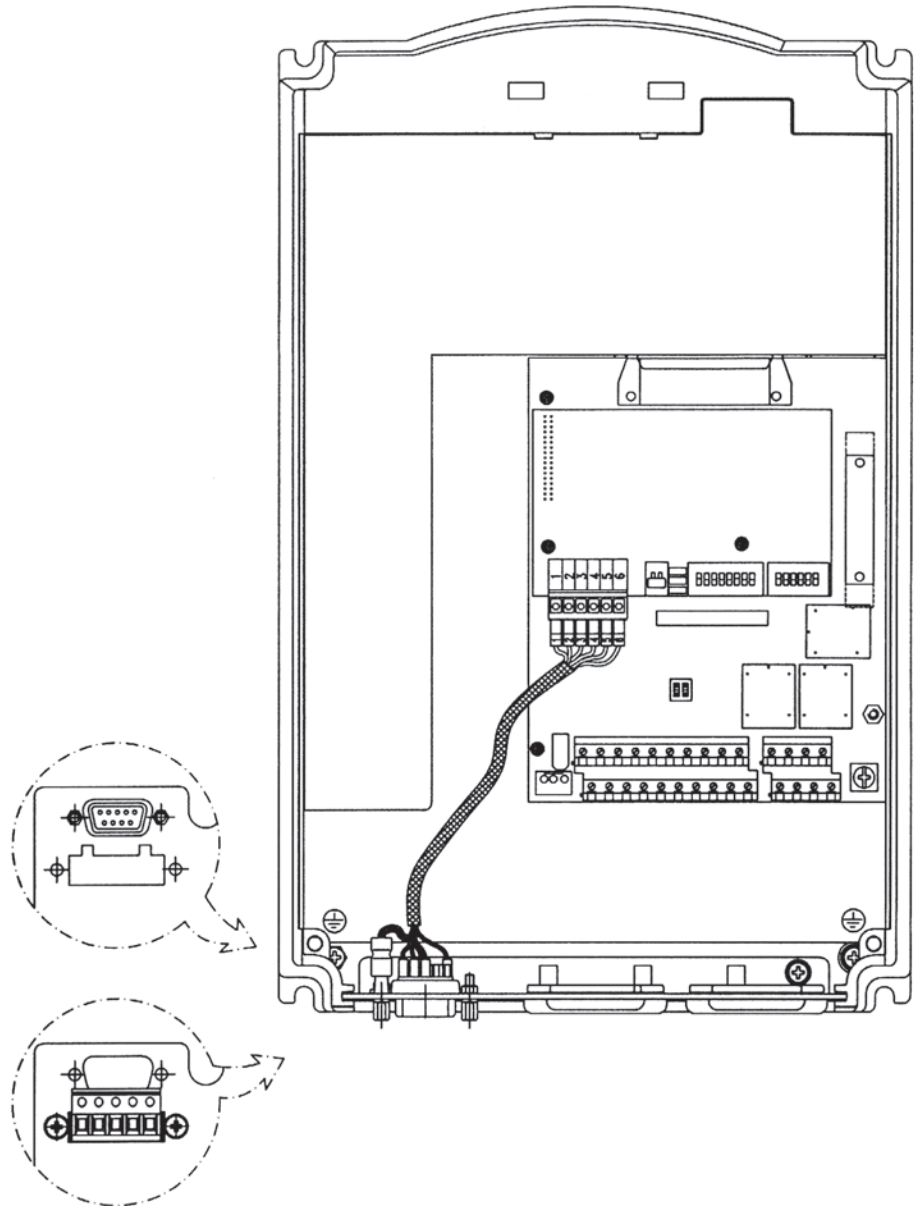

Figure 8.36 - Fastening of the Fieldbus connector
- Fix the Fieldbus connector to the inverter frame by using the 150 mm (5.9 in) cable (see figure 8.36).